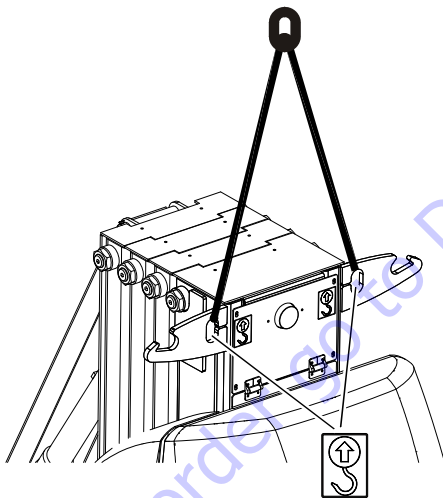

Figure 3-16. Lifting the Machine
- Attach lifting straps/chains at BOTH lifting lugs as shown in Figure 3-16.